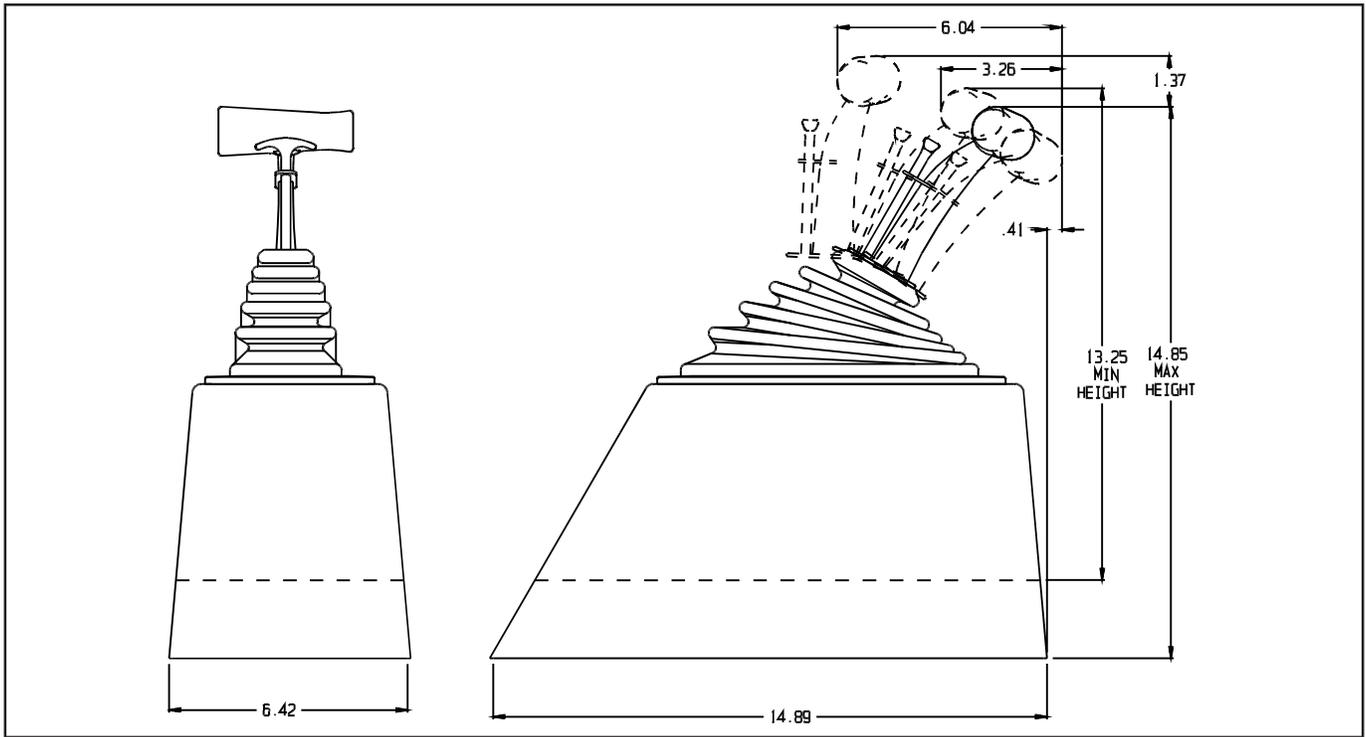

Figure 2
**STEP 1.** Locate the shifter on the floor of the truck where you want it to be located. The mounting brackets can mount the basic shifter assembly 1-1/2" to 3-5/8" above the floor. **Figure 2** gives the dimension of the shifter, so be sure that there is enough room where you will be mounting the shifter.
Pull the carpet away from the floorboard where the shifter mounting bracket is to be located. Place the shifter on the mounting bracket and slide the front and rear brackets up or down to get the desired height for the shifter. Tighten the four screws on the bracket. If the vehicle has a bench type seat, move the seat to the full forward position. With the stick shifted to the rearmost gate position. Locate the shifter for ease and convenience of operation (**See Figure 2**). Make sure the trigger and the T-handle clear the dash with the shifter in the Park position. Mark the position of four mounting holes for the bracket assembly on the floor.